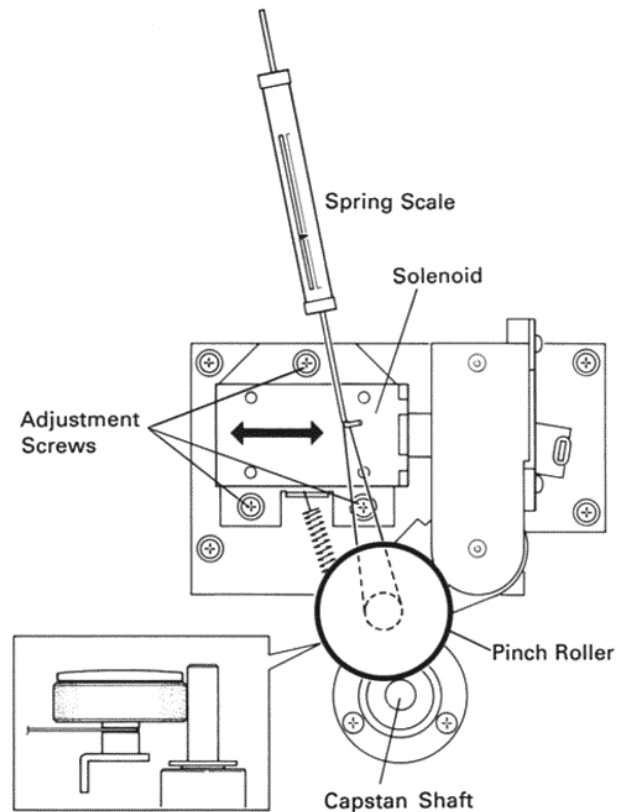

Figure 5-3. Pinch Roller Pressure Measurement and Adjustment
2. Attach a spring scale to the pinch roller shaft as shown in Figure 5-3.
3. Press PLAY and slowly pull the spring scale perpendicularly to the pinch roller arm as shown in Figure 5-3.
Loosen the three mounting screws (Figure 5-3) in the solenoid and adjust the solenoid position.